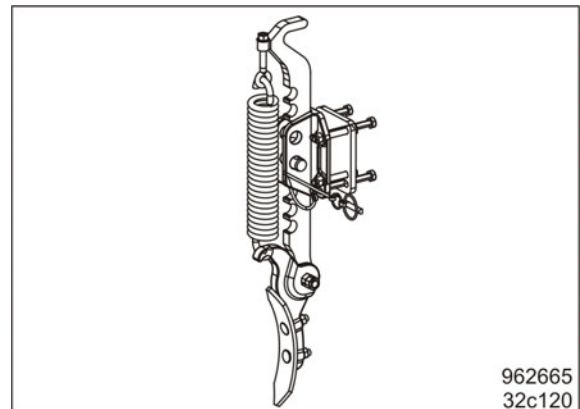

Fig. 24
- Wheel mark eradicator, spring suspended (Fig. 24)